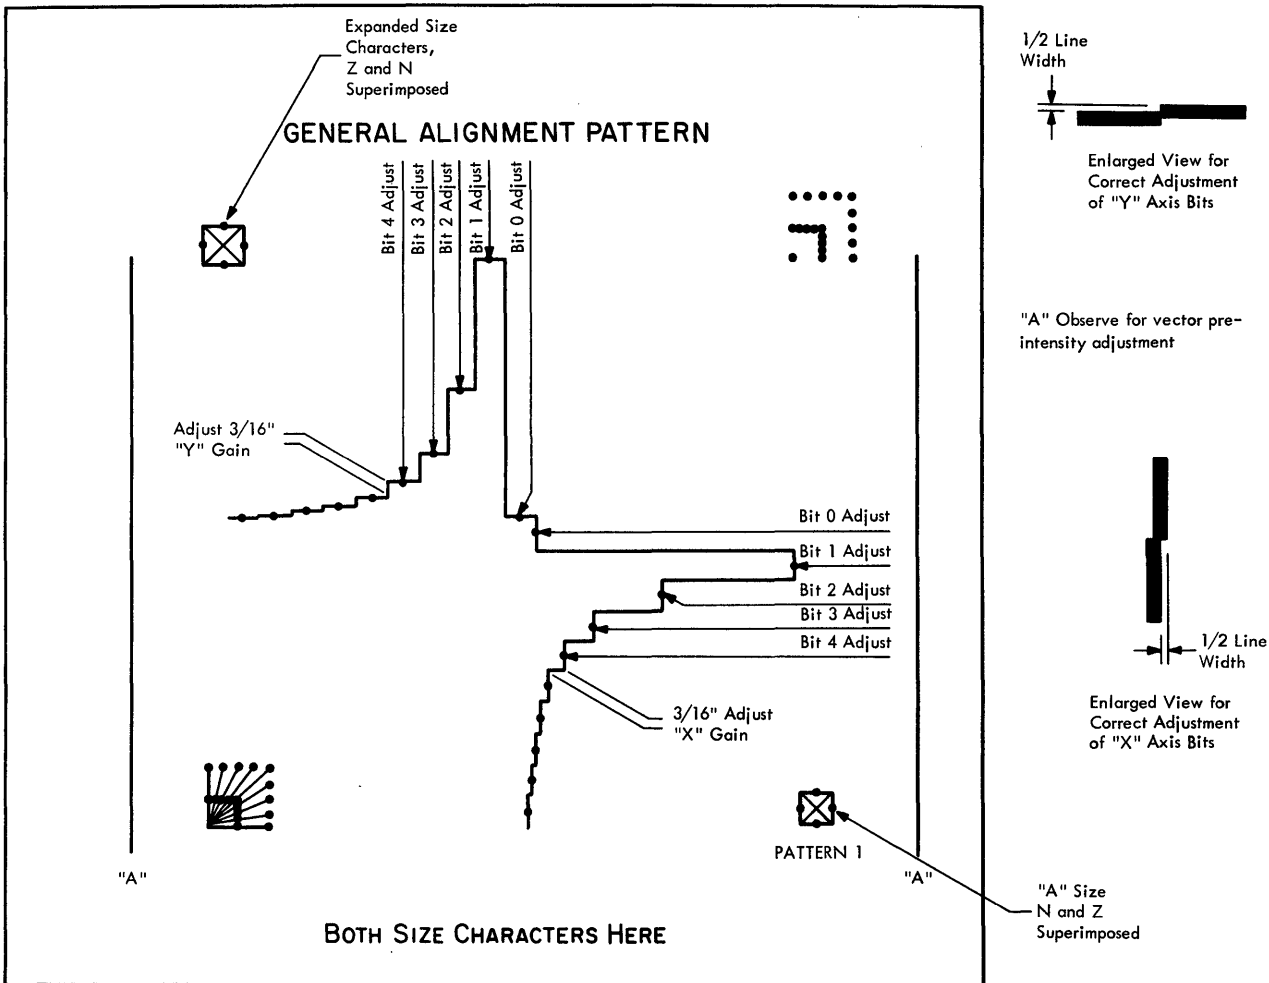

Figure 4-2. General Alignment Pattern
8. Adjust X GAIN control so that bits 5-9 in X on General Alignment Pattern measure 3/16 inch (Figure 4-2).
17. Adjust vector preintensification single-shot (02B-B1K2 middle) until starting point of the two vertical vectors is intensified (Figure 4-2).